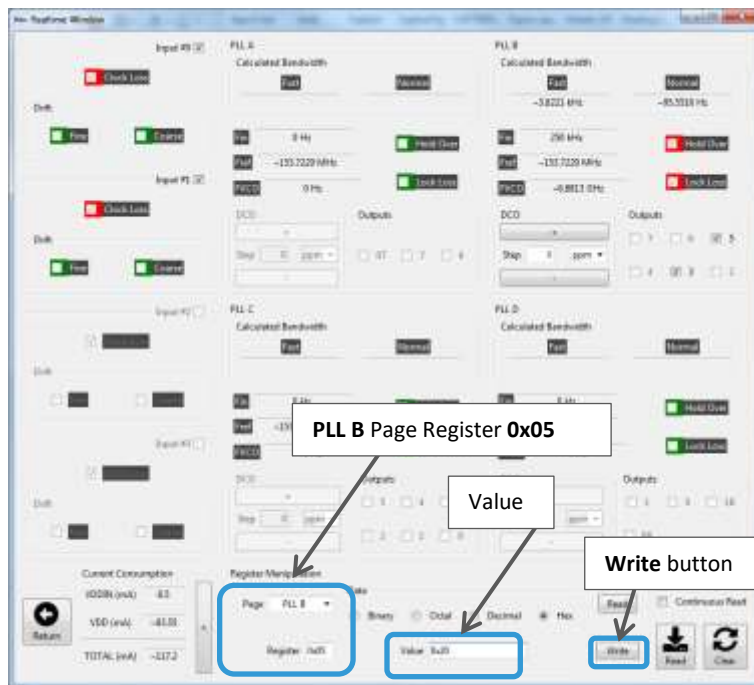

Figure 85: Write bit[1] low to the Page PLL B Register 0x05 of the SiT95148 to disable SYREF
- b. Disable SYREF on the selected output, set bit 1 low (see Figure 85)